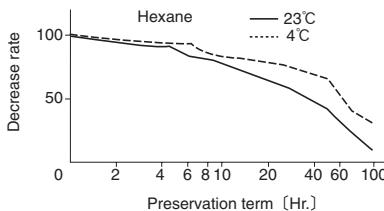

FIG.4.2 DECREASE IN A GLASS SYRINGE
(1) Since the concentration of sample decreases with time depending upon the material and size of bag and the substance and concentration of sample, the sample shall be fed to the gas detector tube confirming the stabilization of the concentration based on the decreasing rate of it (see FIG. 4.2 and 4.3).